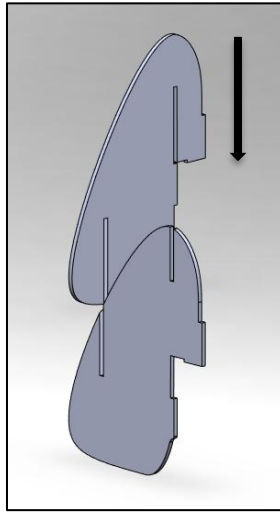
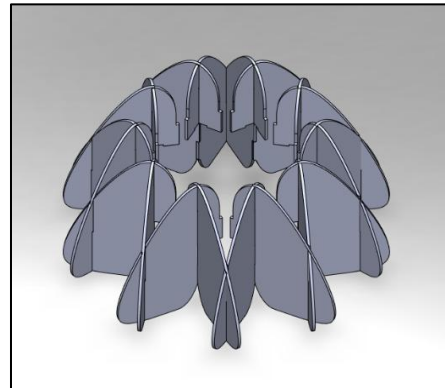

FIG. 12 – ACOSUTIC PANEL ALIGNMENT
FIG. 13– SUPPORT RING/ACOSUTIC PANEL CONNECTION
1. Take the two different acoustic panel shapes and slide them together until they are fully aligned (as shown in Fig. 12). Make sure the bottoms of the panels are securely interlocked. Once all the panels are properly connected, group them into pairs and connect the back ends until all ten pairs are joined, forming a complete circle (as shown below in FIG. 13).